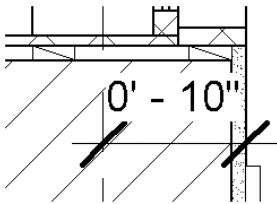

FIGURE 11.22 Dimensioning the wall location
6. Add another dimension that locates the gypsum board relative to the grid line (Figure 11.22). By default, the exterior face of the gypsum board won't highlight to accept the dimension. With your mouse hovering over the right edge of the gypsum board, press the Tab key, and you can place the other side of the dimension string.